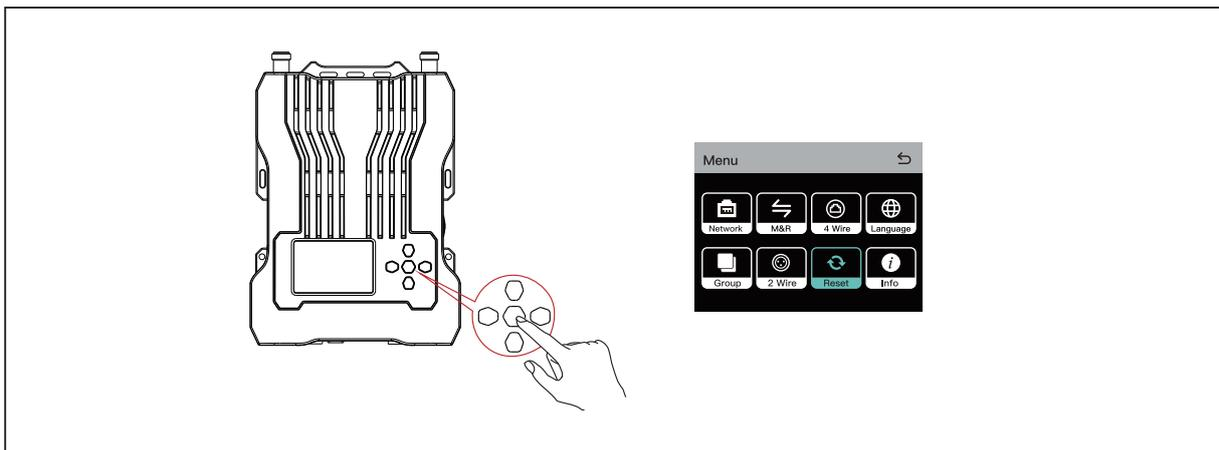

Figure 2
1. In a three-system cascade connection, press and hold the menu/confirmation button on the base stations to enter the menu interface and then select **Reset**. (See Figure 2)